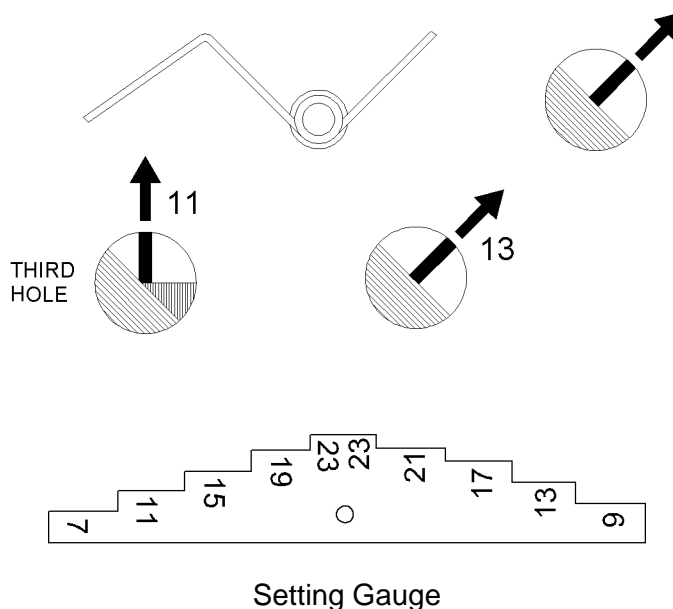

Figure 7. Setting the Spreader Adjustment Holes
- a. Loosen the rate adjustment knob at the rear of the hopper. Insert the #13 position on the calibration gauge into the center adjustment hole, oriented as shown in Figure 7. Pull the spreader operating lever back until the shutoff plate touches the gauge.
- d. Without changing the rate control arm setting, place the operating lever at the OPEN position. Insert the #11 position on the gauge, oriented as shown in Figure 7, in the third-hole right side pattern adjustment hole (left-hand hole). Move the third-hole remote